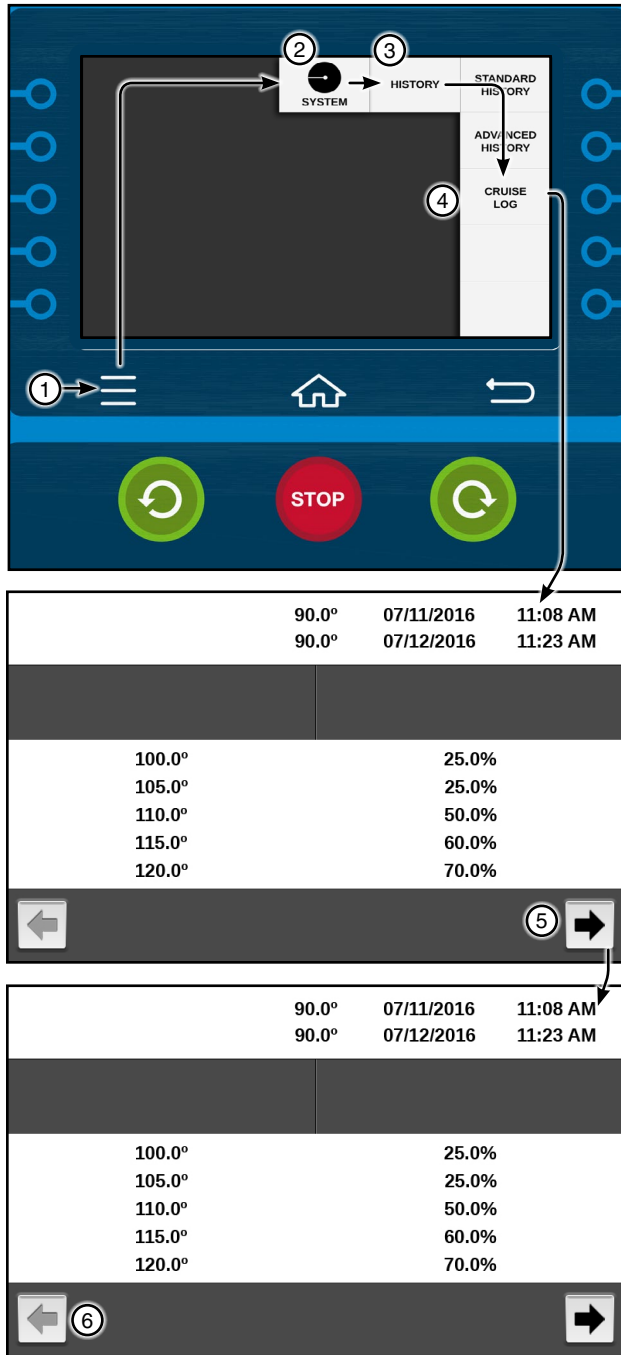

Figure 72-1 1. Menu 2. System 3. History 4. Cruise Log 5. Next 6. Previous
1. To view the Cruise Log, push **Menu, System, History, Cruise Log**. See Figure 72-1.